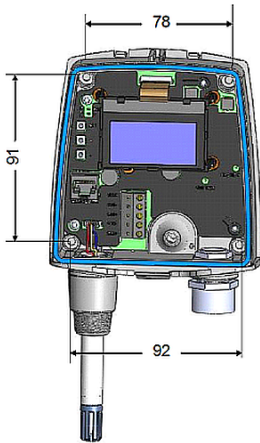

Figure 3 Wall Mounting Measurements
- 2. Make sure that the transmitter is correctly aligned and attach it directly to the wall with up to four screws (not included in the package). Figure 3 \(page 14\) shows the distances between attachment points.